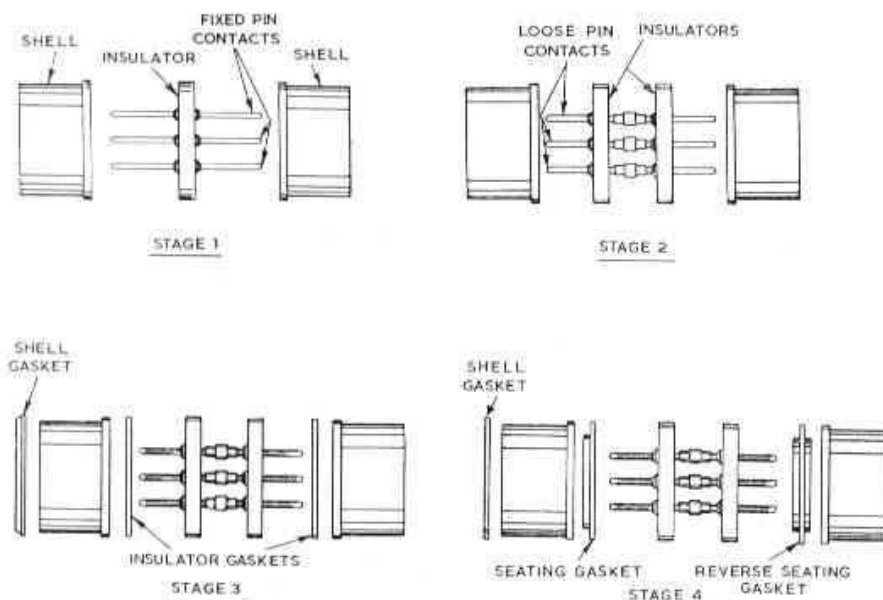

Fig. 10. Bulkhead unit, stages of development
20. This style of unit (fig. 10) was the original design and was manufactured with aluminium, brass and steel shells. In effect, the stage 1 bulkhead unit consists of two stage 1 fixed units joined back-to-back but with a single insulator (of phenolic material) in which special double-ended pins are moulded in position. It is used to connect two free units, one a normal unit, the other a reverse unit, on either side of a bulkhead (that is, the free units are mirror images of one another but otherwise identical).
21. This version (fig. 10) differed from stage 1 in that the insulation was formed of two identical components, each having stepped creepage barriers at the perimeters of the contact holes (para. 8). The bases of the pins are sandwiched between the insulators when the flange is secured by the fixing bolts and nuts.
23. In the stage 4 version (fig. 10), the front and rear insulator discs were alkyd and the shell gasket silicone rubber. A seating and a reverse seating gasket (designed to accept the leading edges of mating socket units) replace the insulator gaskets of units in stage 3 and these are also of silicone rubber. The changes leading to this stage enabled the unit to operate between ambient temperatures of -65 degrees C. and $+150$ degrees C.